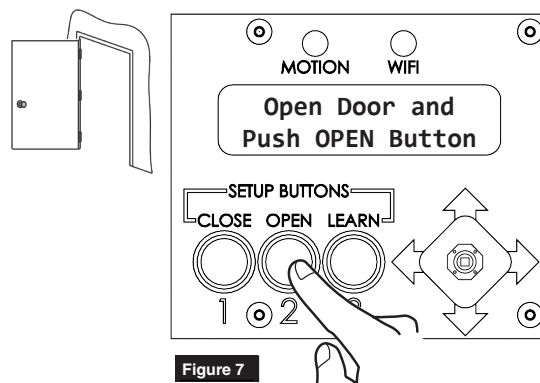

Figure 7
4. Press and release OPEN button on board. Flashing GREEN OPEN LED should turn solid. Let door close. (Figure 7)